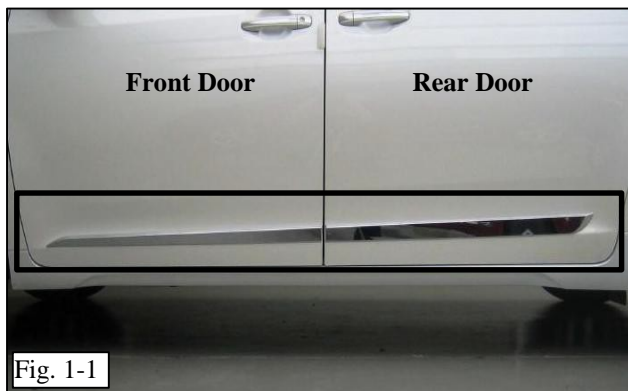

Fig. 1-1
- Saturate a clean lint-free cloth with 3M™ Prep Solvent-70 and clean the lowest 10" of all four doors where the moldings will be installed. The indicated area has been highlighted in (Fig 1-1).